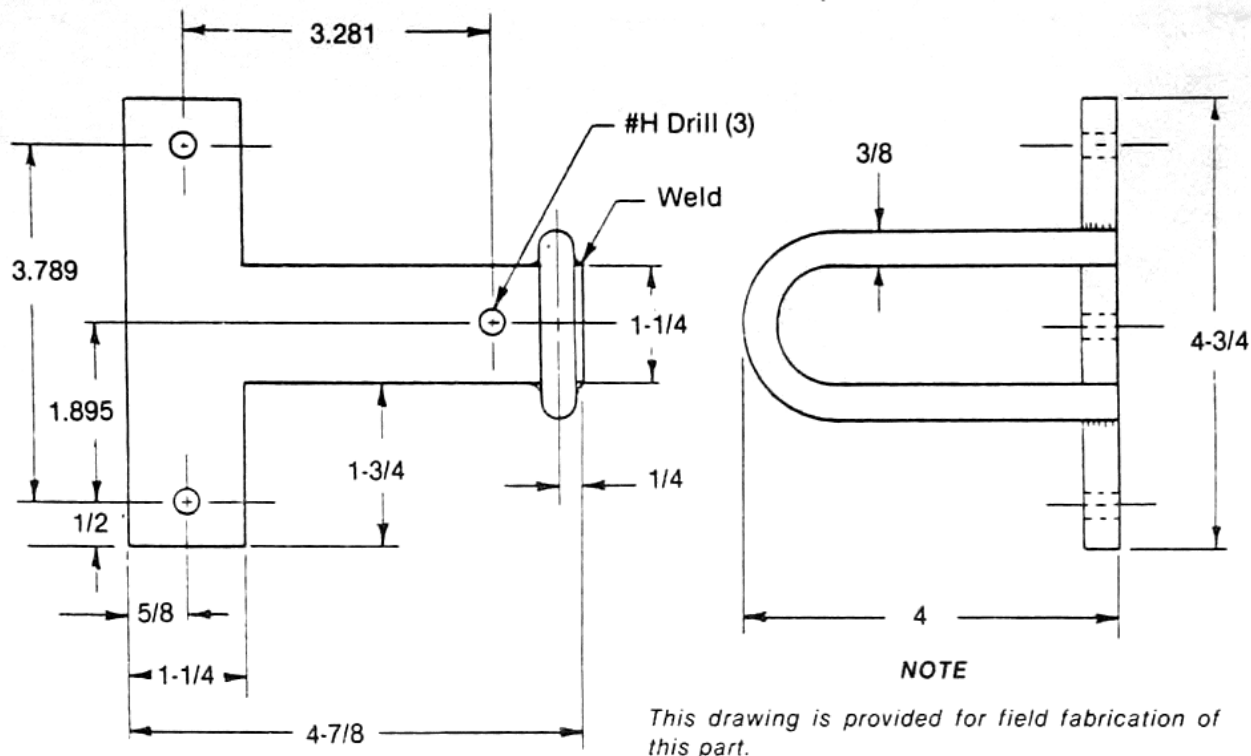

Figure 11-1 Special Tool ST-6921 Head Lift Bracket
9. Attach the head lifting tool (Figure 11-1) to the belt housing bearing cap (2-18-0094) using three 1/4-20 X .750 screws. The loop in the lifting tool should be over the center of gravity of the head.
*Figure 11-1 provides instructions for field fabrication of the head lifting tool.*